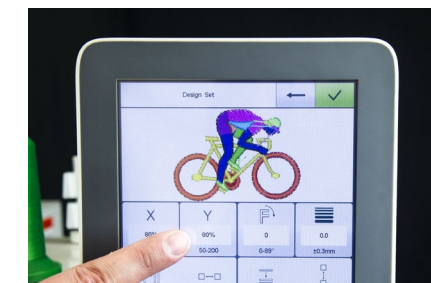

Figure 80
2. Click on the "Y" icon, and input the same value as the X axis. **See Figure 80.**